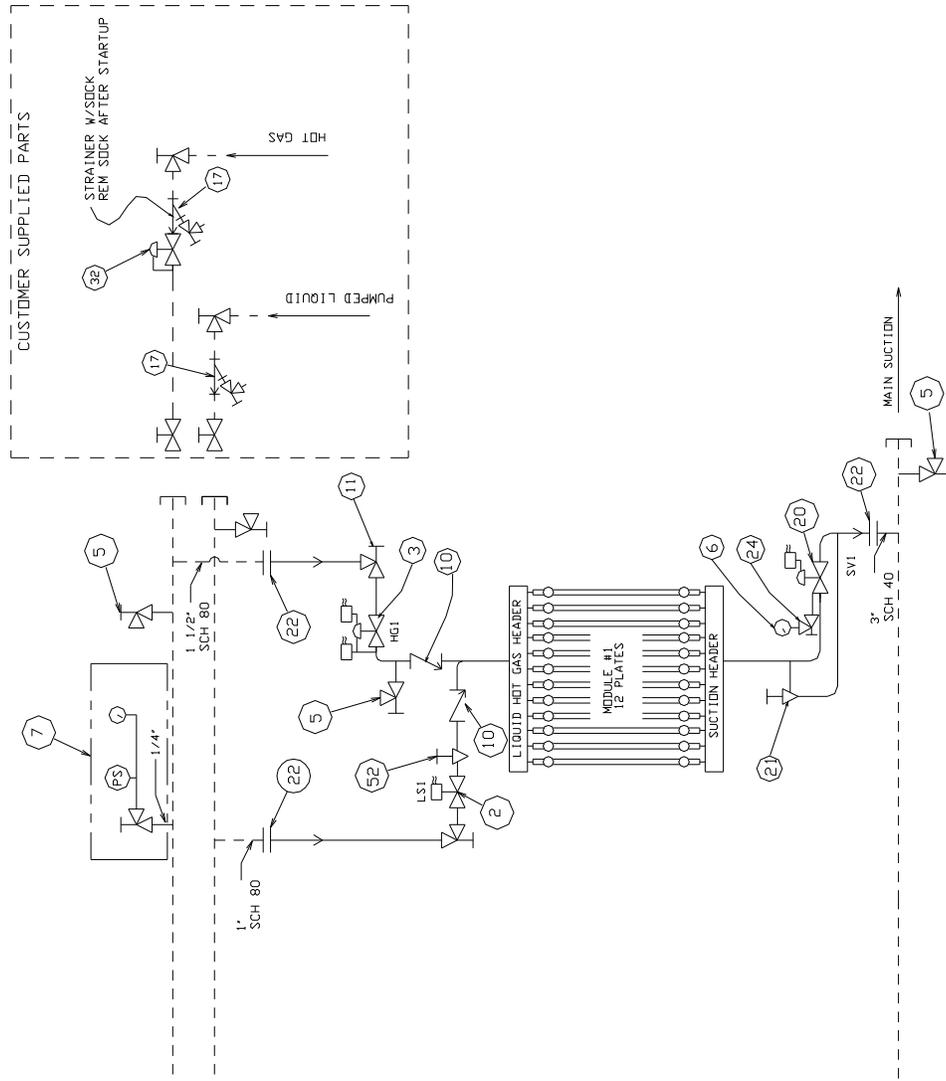

FIGURE 4-1
FIGURES 4-1 & 4-2 illustrate the piping diagram of the refrigerant and water circuits of the Modular Plate Ice machine with numbers for easy reference. Throughout this manual, the numbers you see in parentheses refer to the numbers in this piping schematic.
Refrigeration System Review The refrigeration system uses anhydrous ammonia (R-717) refrigerant. Following the piping schematic (Figure 4-1, 4-2 and 4-3), you will see that during the machine’s freeze cycle, the compressor discharge gas goes through the oil separator to remove any oil present in the discharge gas and return the oil to the compressor crankcase. It is then discharged into the condenser and condensed into a liquid by the removal of heat by water passing through the condenser tubes. A reservoir of liquid R-717 is accumulated in the receiver. Liquid from the receiver flows through the strainer to the solenoid valve (51) which opens and closes by action of the level column level control (46). The liquid is then expanded through the hand expansion valve (52) and into the low pressure receiver (LPR). The cold wet R-717 refrigerant floods the evaporator through the liquid solenoid valve (2) and is in contact with the outside of the ice making plates which water is being circulated over. The heat contained in the water passes through the wall of the plates, lowering the temperature of the water causing it to freeze and form a long sheet of ice that adheres to the outside of freezer plates. Since the purest water freezes first, the circulating water continues to wash the dissolved solids down into the sump area of the water tank. The flushing valve helps to rid the water tank of increased dissolved solids by flushing them out the overflow during the harvest (thawing) period.